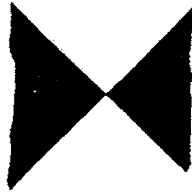

Figure 3-3
- Adjust VR101, PILOT PHASE(T-4088, stereo generator board) for a cross point of the lissajous pattern as shown in Figure 3-3.